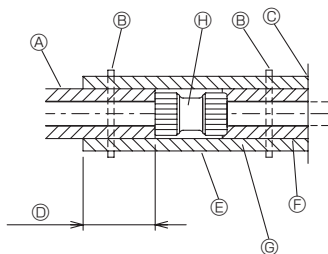

Fig. 4-9
- ① Main unit
- ② VALVE KIT (Option)
- ③ Outlet pipe of Main unit
- ④ Inlet pipe of Main unit
- ⑤ Inlet pipe of VALVE KIT
- ⑥ Outlet pipe of VALVE KIT
2. Insulate the joint section and exposed section of the piping after connecting the piping. (Fig. 4-9)
- ① A Locally procured pipe insulation
- ② Tighten this location with a band (procured locally)
- ③ Do not separate from the opening
- ④ Wrap overlap: 40 mm or more
- ⑤ Insulation material (procured locally)
- ⑥ Unit side insulation material
- ⑦ Depending on the selected joint, there may be a gap between the unit side pipe cover and the joint.